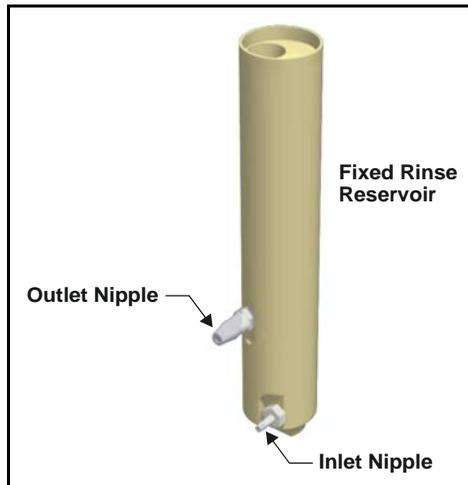

*Figure B-2. Rack Location Mat*
1. Note the cutouts in the sides and the rear of the rack location mat (see Figure B-2).